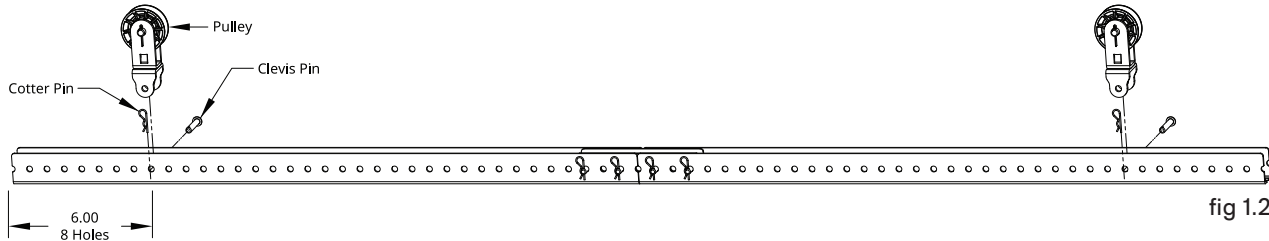

fig 1.2
6. From either end of the frame (made up of the joined modular frame pieces from the previous step), count eight holes in from the end and place a pulley on the frame and secure it with a cotter and clevis pin. (fig 1.2)